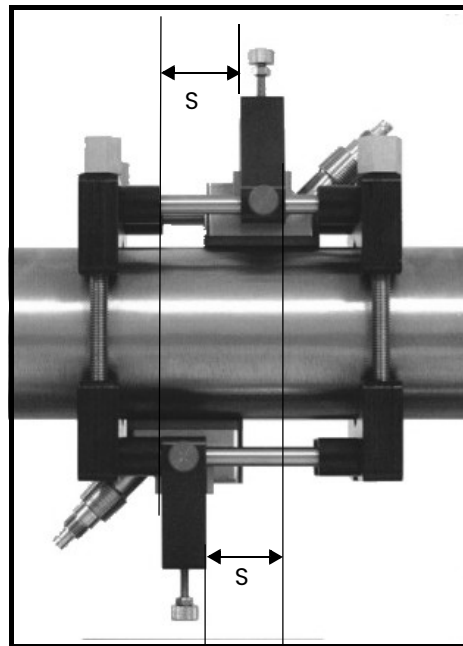

Figure 1-11: V4 Fixture, Top View
The overall spacing between yokes should be left edge to left edge, or right edge to right edge. Figure 1-11 below shows typical positioning.
4. In a similar manner, install the second transducer as shown in Figure 1-11 above. The PI clamping fixture holds transducers on pipes from 12 to 24 in. in diameter. It comes with either a chain or strap, depending on the selection made with the initial order from Panametrics. To install the fixture and transducers, complete the following steps: